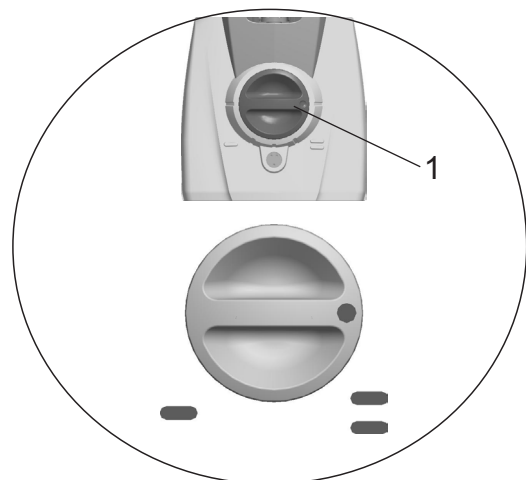

Fig. 4
The stapler setting for a different staple leg length is altered as follows. Start by adjusting the depth of stapling for deep clinching (=) as shown in Fig. 4.
- Depress the knob (Fig. 4/1) and turn it to any of the five positions.